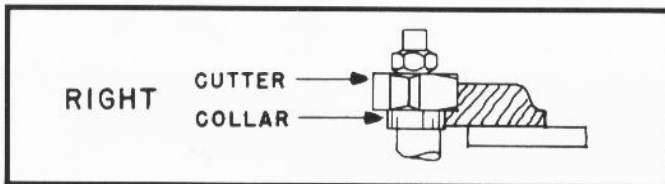
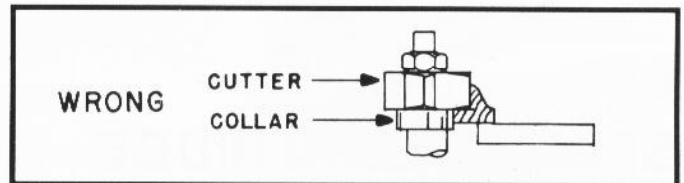

Fig. 32
Fig. 33
4. The work **MUST** be fairly heavy in proportion to the cut being made as shown in Fig. 32. Under **NO** circumstances should short work of light body be shaped against the collars as shown in Fig. 33.